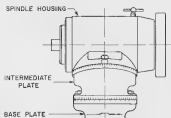

Figure 61A
6. Swivel the spindle housing to match the O-line on the upper scale of the intermediate plate, and clamp. Then swivel the housing and plate as a unit to match the O-line of the lower scale with the base, and clamp. The attachment spindle is now in a horizontal plane, and at right angles to the cutting edge of the wheel as shown in step No. 1 (Figure 61A)